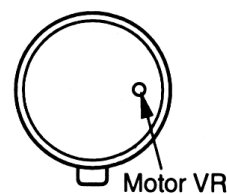

Fig. 5
3. Adjust motor VR for the output value shown below. (Refer to Fig. 5)